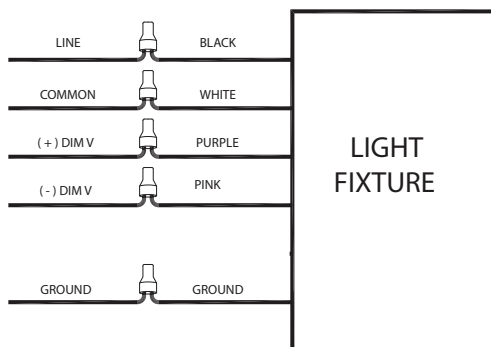

Fig. 4
6. Connect wires as shown in wiring diagram (Fig 4). Push all wires back into the **Splice Box**. Be careful not to pinch wires. **WARNING: To prevent wiring damage or abrasion, do not expose wiring to edges of sheet metal or other sharp objects.**
Universal voltage driver permits operation at 120V through 277V, 50 or 60 Hz. 0-10V control wires must be rated for 300V minimum. For 0-10V dimming follow the wiring directions shown below (Fig. 4).